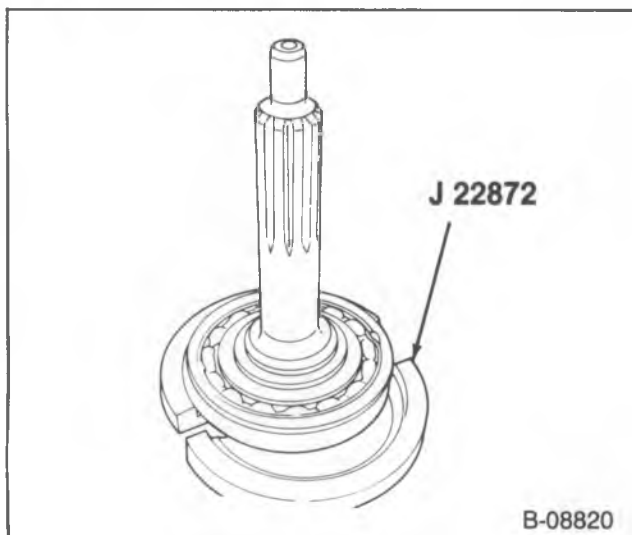

Figure 8—Installing Tool J-22872
1. Pilot bearings (239).
2. Bearing retainer (276).
3. Snap ring (241).
4. Bearing (278), using J 358-1 and J 22872, (figures 8 and 9)
5. Slinger (240).
2. Bearing (277), using J 358-1 and J 22872, (figures 8 and 9).
3. New bearing to shaft (small) snap ring (241).
4. New bearing to case (large) snap ring (203).
5. Pilot bearings (239).